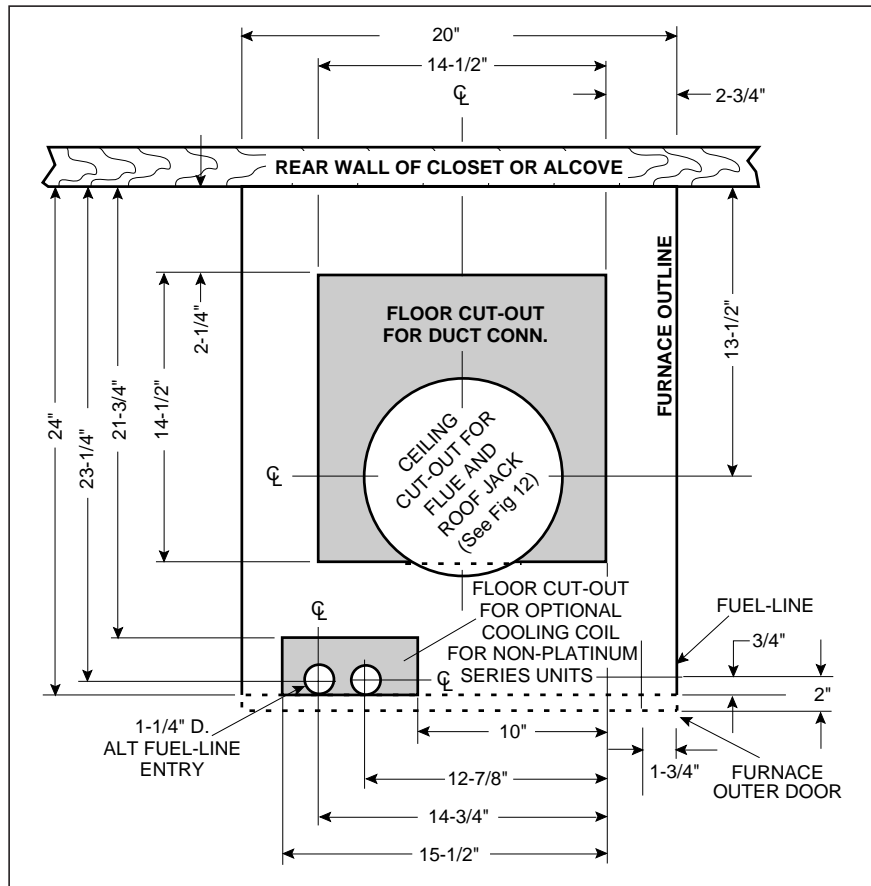

Figure 13. Cut-Out Locations
- Determine center of closet or alcove (Figure 13).
- Locate center of Roof Jack opening, measured 13 1/2" from the rear wall of closet or alcove along the center line of furnace and floor opening. (See Figure 13)